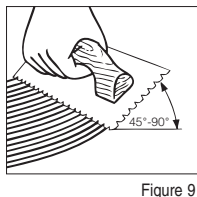

Figure 9
- Hold trowel at a minimum 45° angle (Figure 9) firmly against the subfloor to obtain a 40-60 ft² (4-5.5 m²) per gallon spread rate. The trowel will leave ridges of adhesive and very little adhesive between the ridges. This will allow you to still see the chalk lines between the ridges and provide the recommended spread rate.